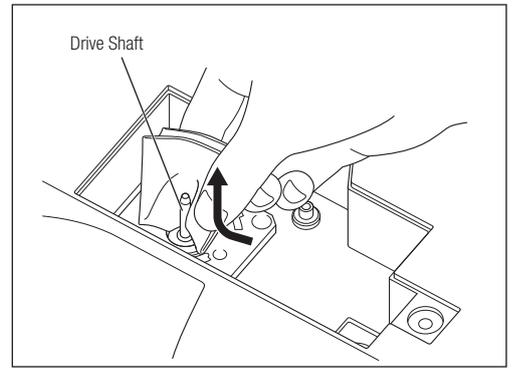

Fig. 56
- Wipe dirt and water off the Drive Shaft from the bottom up (Fig. 56).